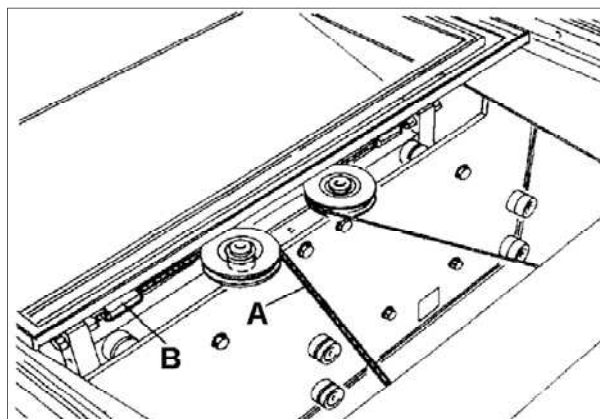

fig.7.3
- b.3) Check the tension of the cables (A) and if necessary adjust it by means of the adjusting screw (B), (see fig.7.3).